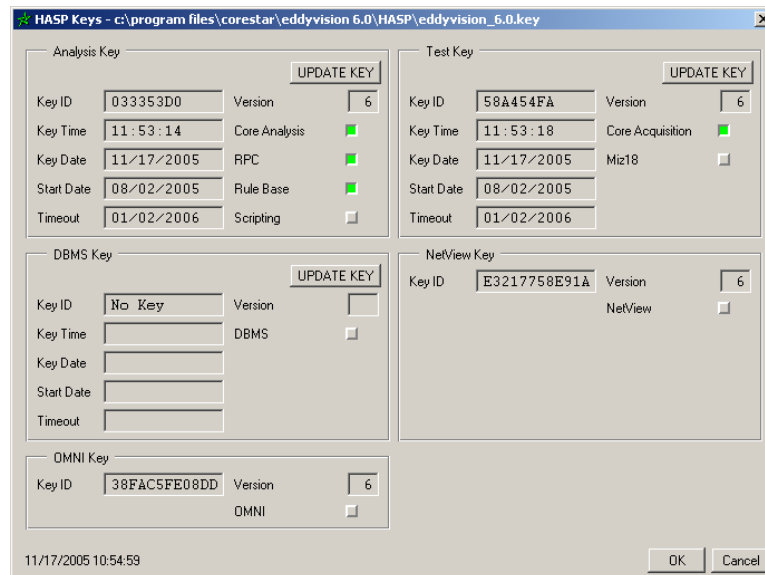

Figure 56. Util | Show Keys | HASP Keys Dialog
- **Util | Show Keys** displays the **HASP Keys** dialog shown in Figure 56, on which the user can check the status of a HASP key(s) currently connected to the computer or update a HASP key(s). In Figure 56, Analysis and Test keys are currently connected to USB ports of the computer, while no DBMS key is connected. The **Timeout** dates of all keys should be checked as part of inspection planning to ensure a key(s) will not timeout during the inspection. This menu selection is available in all the other software modules of EddyVision as well. For details on updating and/or troubleshooting HASP keys, please see the *Getting Started* manual.